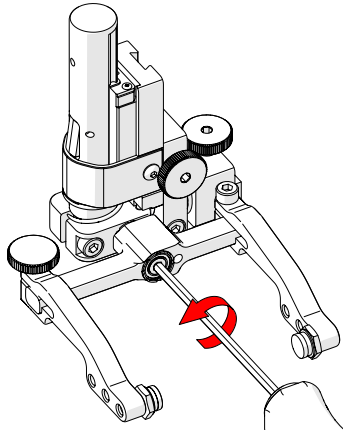

Fig. 137 - Unscrew yoke pivot screw
2. Using the supplied 3 mm hex driver (Fig. 68), unscrew the yoke pivot screw and remove the yoke (Fig. 137).